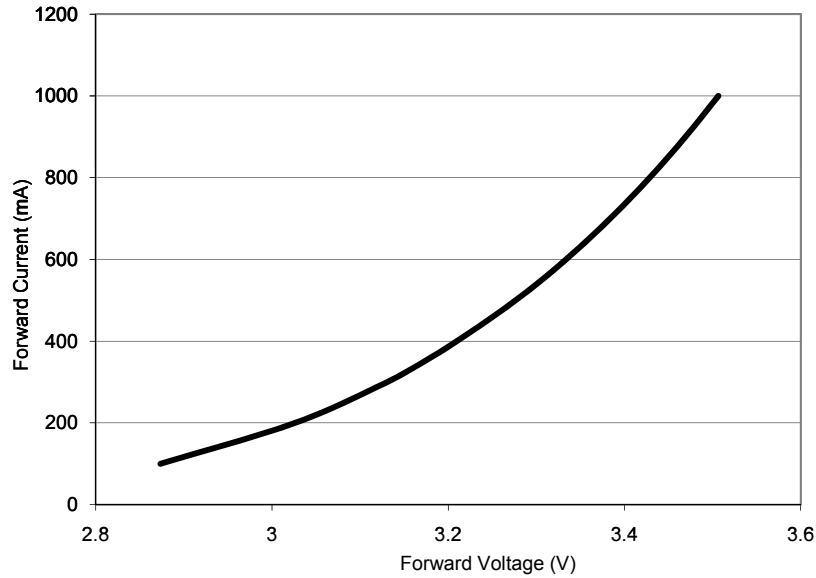

Figure 7. Forward current vs. forward voltage for green, cyan, blue and royal-blue.
- * Dynamic resistance is the inverse of the slope in linear forward voltage model for LEDs. See figures 7 and 8.
2. Dynamic resistance is the inverse of the slope in linear forward voltage model for LEDs. See figures 7 and 8.